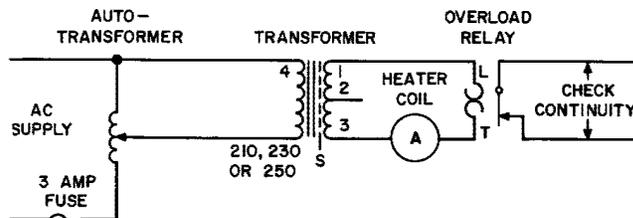

Fig. 38 — Test Circuit for Checking Overload Relays
(1) This procedure applies for the test requirement of single-phase starters and 3-phase starters having a full-load motor current of 25 amperes or less, or a full-load motor current greater than 25 amperes but employing a current transformer in association with the overload relay.
(2) Open the ac supply at the switch and fuse unit by removing fuses or opening the motor circuit disconnect switch. Where current in excess of the output rating of the autotransformer is required, a transformer should be added as shown in Fig. 38. If the 352AL transformer is used, terminals 1 and 3 are connected to the L and T terminals of the overload relay; terminals 4 and 210, 230, or 250, depending on line voltage, are connected to the output of the autotransformer. With the above arrangement, current up to 62-1/2 amperes at 2.5 volts ac can be obtained by manipulation of the autotransformer. With the test autotransformer, adjust the current to the required value.
(3) If no current flows when voltage is applied with the autotransformer, replace the heater coil. If a nonadjustable relay does not operate within 5 minutes, replace the relay. If an adjustable relay does not operate within 5 minutes, readjust the relay as covered